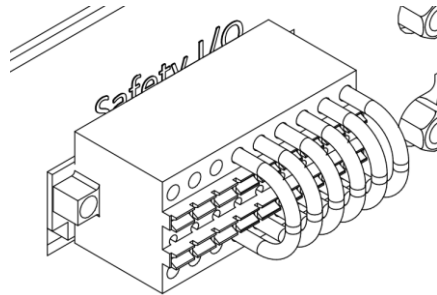

Figure 4-10 Safety short circuit module
- Step2. Confirm that the safety short-circuit module of the control cabinet is connected normally (Figure 4-10 shows the normal connection status).